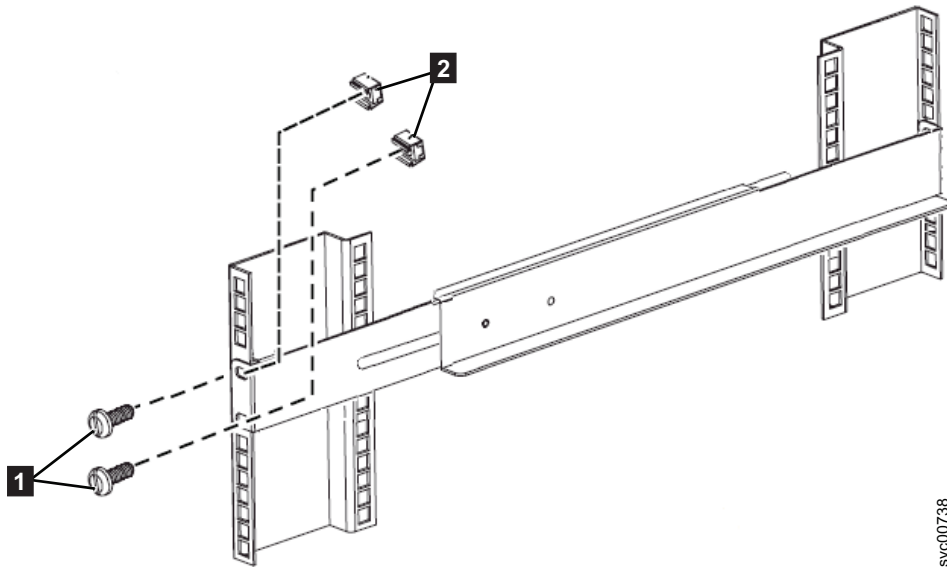

Figure 326. Attaching the rear of the 2145 UPS-1U rail to the rack
5. Select the holes in the rail where you want to position the uninterruptible power supply. The figure shows the rear rail where the 2145 UPS-1U attaches to the rack. See Figure 326.